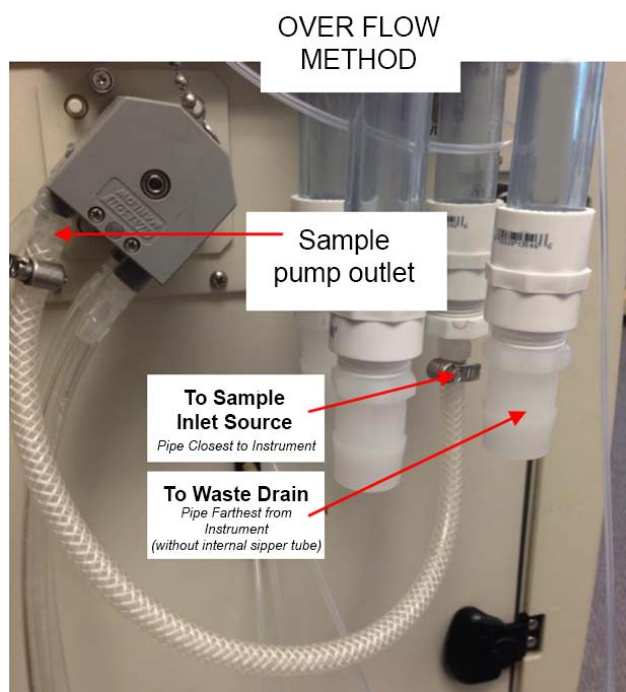
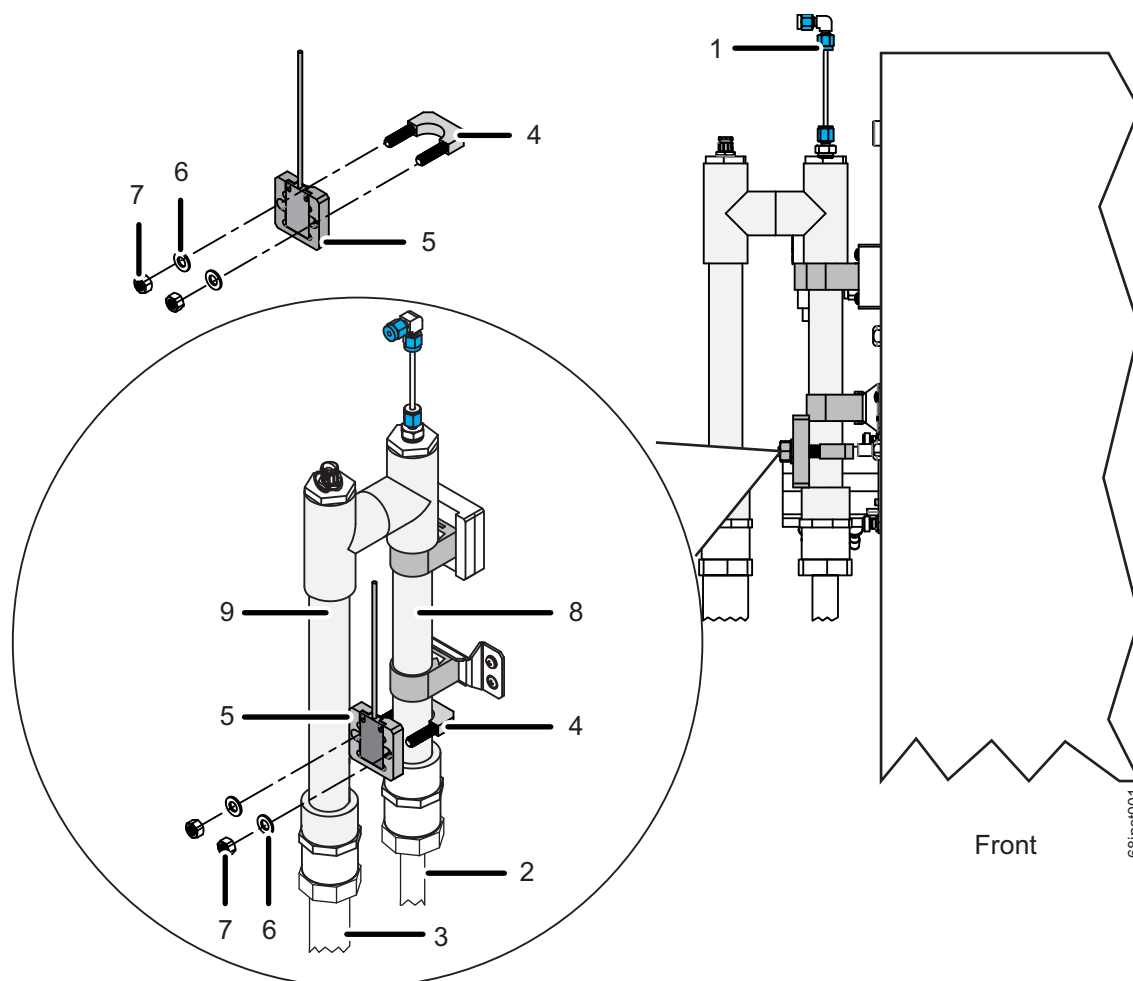

Figure 32: 2-Stream, Overflow Mode — Installation
Figure 33: Overflow Mode — Fail Safe Installation
12. Remove the U-bolt **(4)** from the sensor **(5)** and position the U-bolt **(4)** over and near the end of the pipe with the sipper tube **(8)**. See Figure 33: Overflow Mode — Fail Safe Installation on page 103.
15. Connect the pipe nearest the instrument (the pipe with the internal sipper tube (8)) to the sample source (2). (See Figure 33: Overflow Mode — Fail Safe Installation on page 103. and Figure 32: 2-Stream, Overflow Mode — Installation on page 102.)
16. Connect the pipe farthest from the instrument (the pipe *without* the internal sipper tube (3)) to the waste outlet, connected to a gravity drain. This will insure that no back pressure
(< 7 kPa, 1 psig) is created within the Analyzer. (See Figure 32: 2-Stream, Overflow Mode — Installation on page 102.)